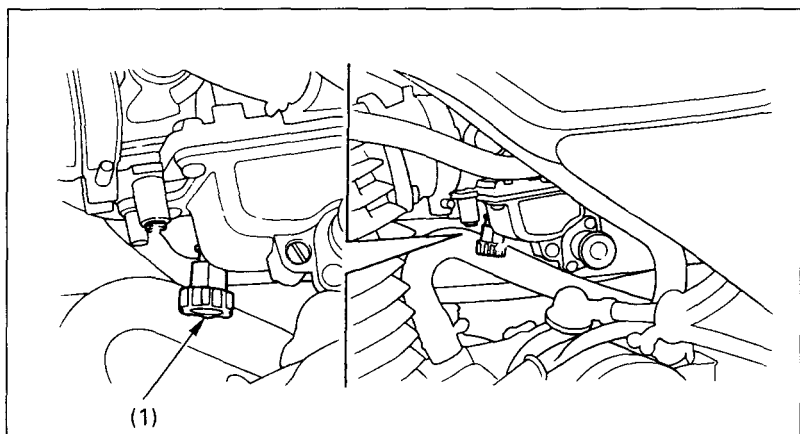

Fig. 4-10
2. Adjust idle speed by turning the throttle stop screw (Fig.4-10).